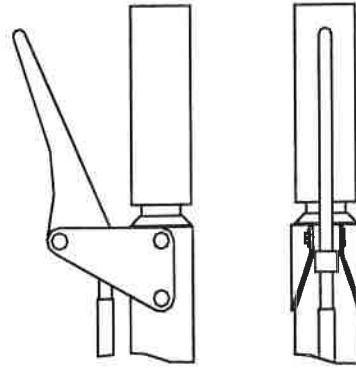
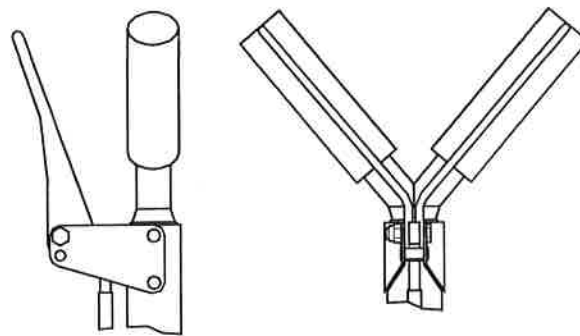

fig. 7
fig. 8
* The central stick may be of one of the two types – a single grip (fig.7) and a twin grip (fig.8) type.